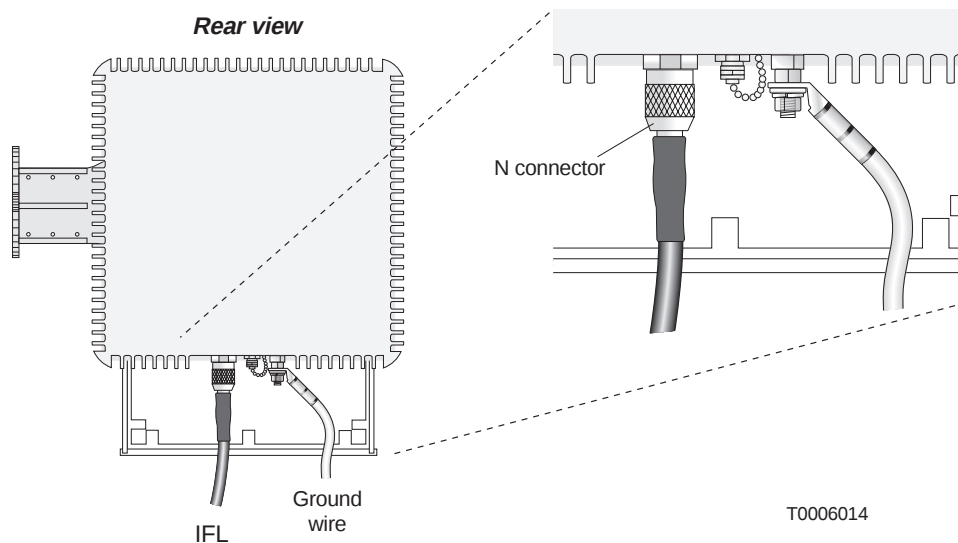

Figure 5-11 Connecting the IFL to the ODU
1. Connect the IFL to the ODU as shown in figure 5-11.